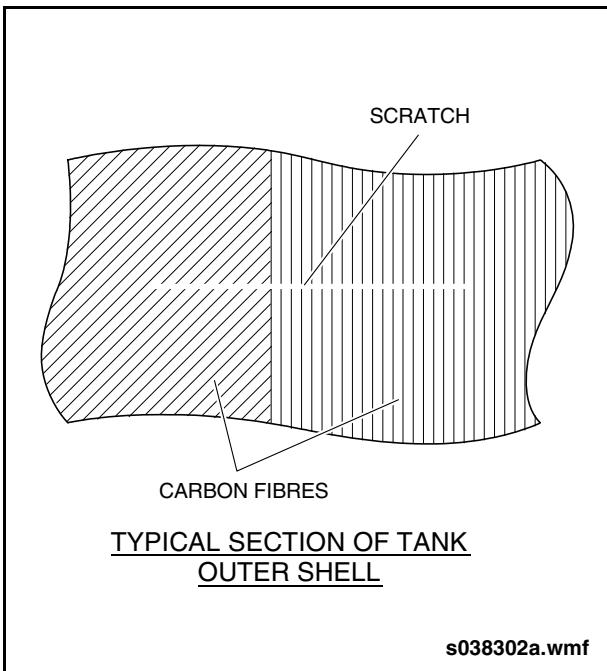

Fig. 7-21: Lvl. 1-Cut or Scratch Damage (acceptable)
1. The container has no damage or Level 1 damage and is deemed acceptable. The container may remain in service. See "Fig. 7-21: Lvl. 1-Cut or Scratch Damage (acceptable)" on page 67.